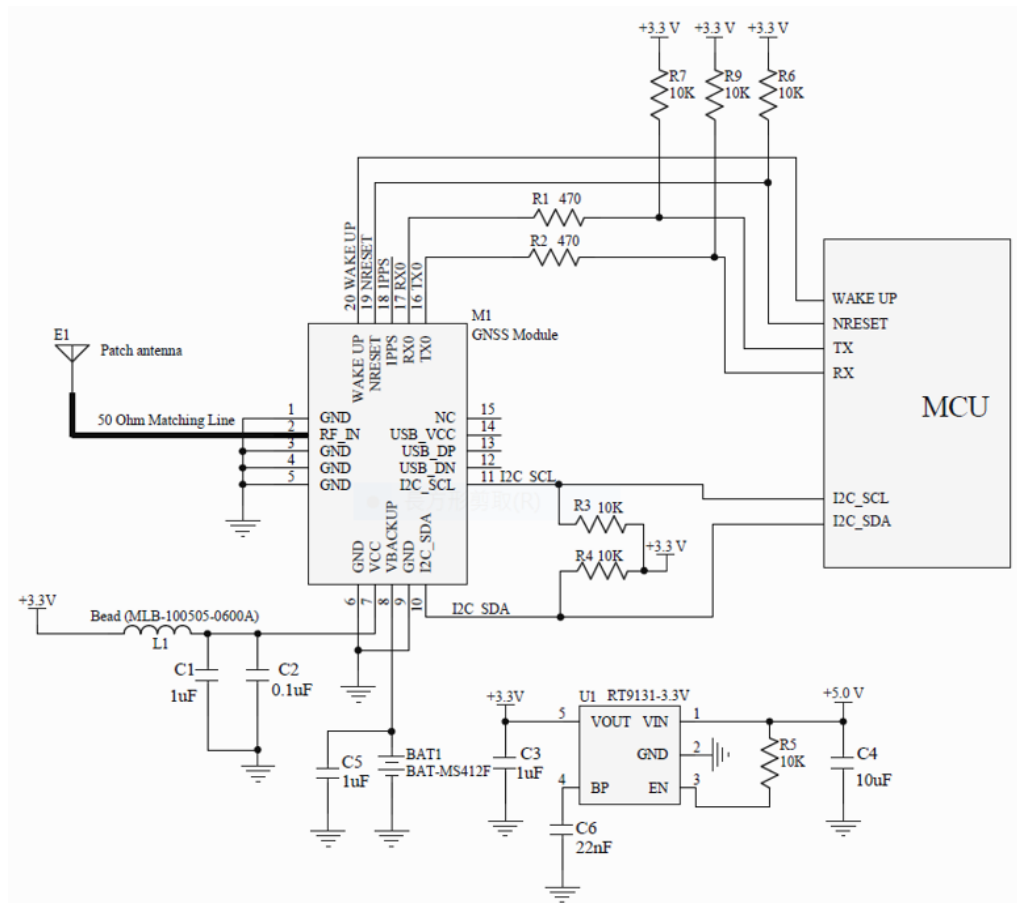

Figure 4-1: Reference Schematic for Using UART0 + I2C
1. UART0 + I2C—both interfaces can support NMEA output. Refer to Figure 4-1.